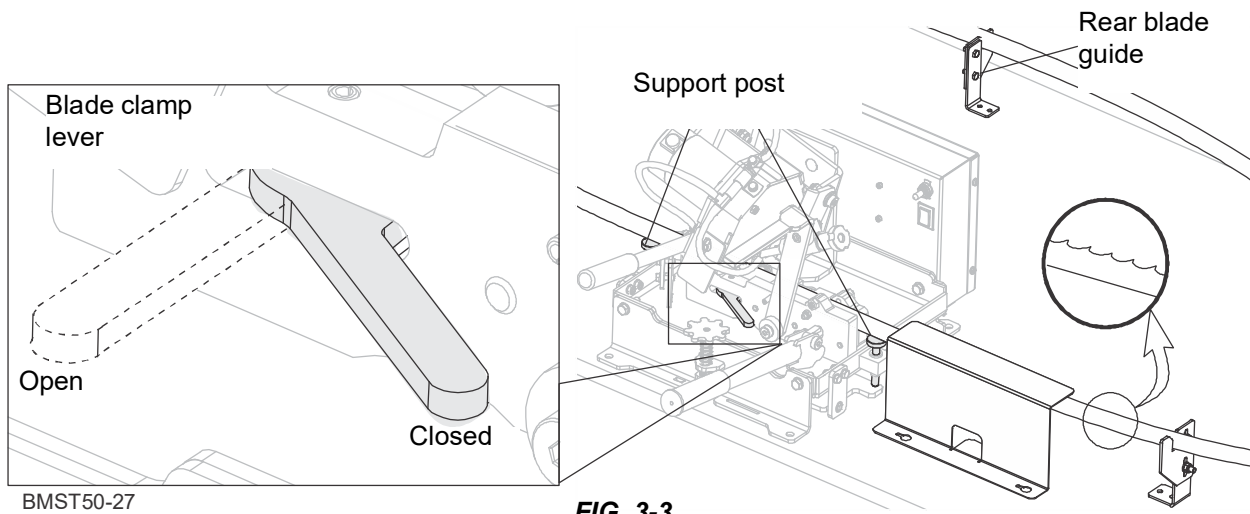

FIG. 3-3
3. Open the blade clamp and place blade between the clamping plates with the blade's bottom edge on the blade support posts. **See Fig. 3-3.**
4. Adjust the height of the rear guide so the bottom of the blade is approximately level with the blade's bottom edge in the sharpener. **See Fig. 3-3.**
3. Close the blade clamp lever to hold the blade accurately in place. See FIG. 3-3
7. Close the blade clamp lever to hold the blade accurately in place. See FIG. 3-3 .